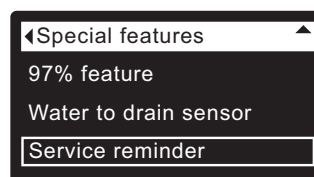

FIG. 96
1. From any of the rolling status screens, press the SELECT (O) button to display the **Main menu**.
3. Press the SELECT (O) button to display the Advanced settings menu.
5. Press the SELECT (O) button to display the Special features menu (See Figure 96).
9. Press the SELECT (O) button. The display will go back to the Special features menu (Figure 96).